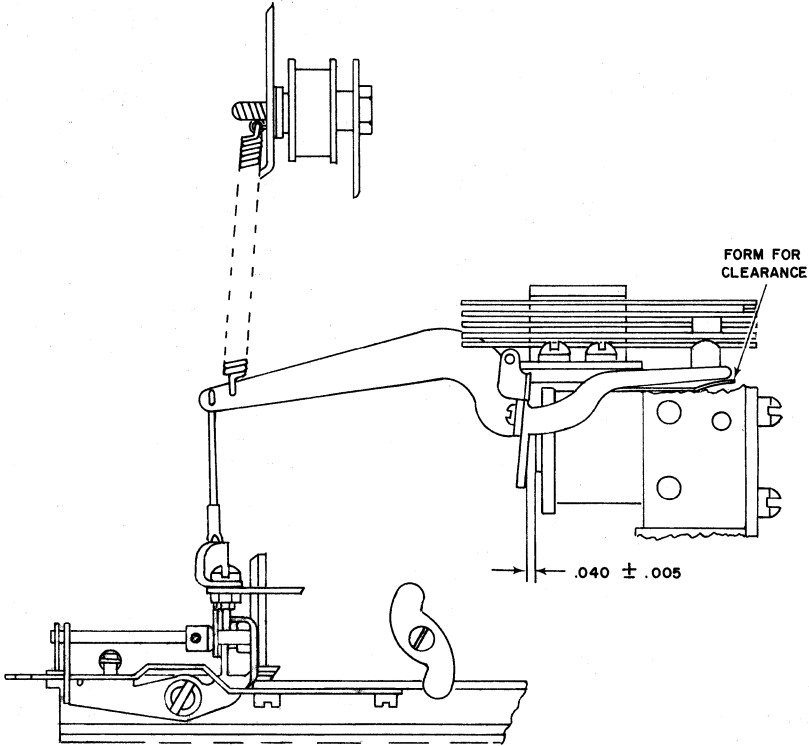

Figure 2 Relay Not Energized
1. There should be .040" plus or minus .005" clearance between the armature and core of the double margin relay when the relay is not energized (Figure 2). The clearance is measured at the center line of the core. Adjust by forming the bendable stop on the relay.